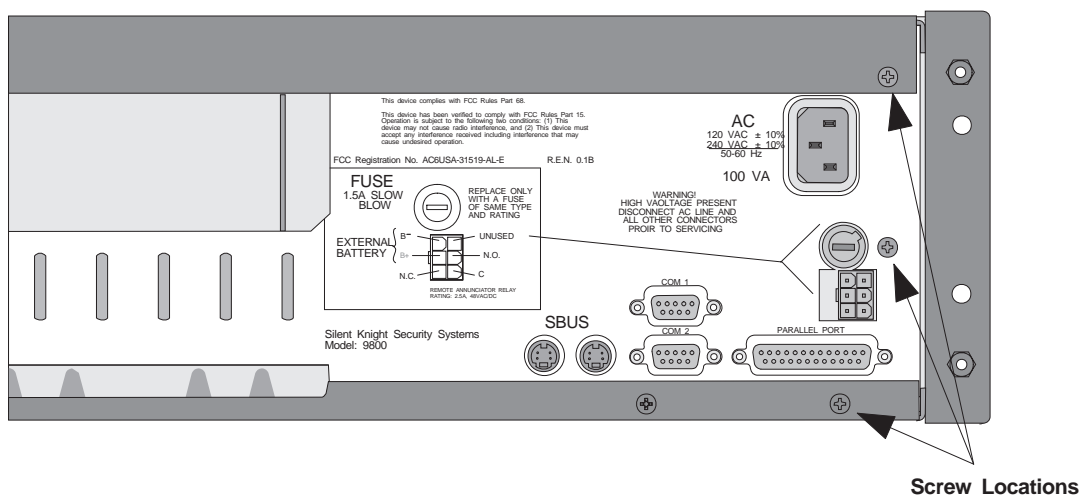

Figure 3-11 Mother Board/Power Supply Assembly Retaining Screw Locations
5. On the back of the receiver remove the four screws that hold the mother board/power supply assembly to the chassis (Figure 3-11).
9. On the back of the receiver replace the four screws that hold the mother board/power supply assembly in place (Figure 3-11).